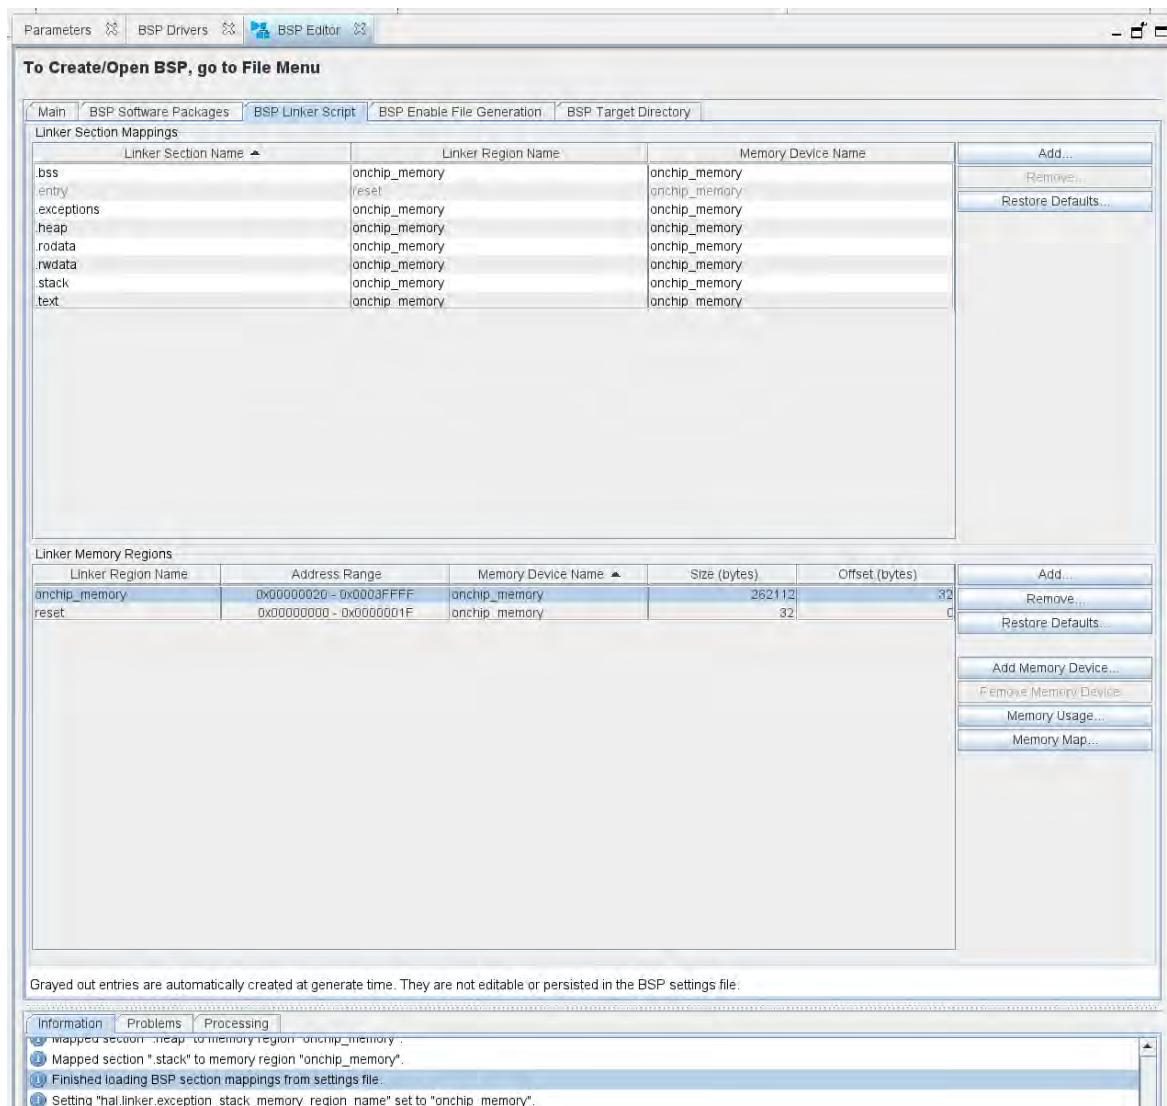

Figure 3-42 Configuring System Library Properties
data memory (.rodata), Read/write data memory (.rwdta), Stack memory and Program memory (.text), see Figure 3-42. These settings determine which memory is used to store the compiled executable program when the example **app** programs runs. In the **Main** tab, You can also specify which interface you want to use for stdio, stdin, and stderr. You can also configure build options to support C++, reduced device drivers, etc.
4. Choose **onchip_memory** for all the memory options in the **BSP Linker Script** tab. See Figure 3-42 for an example.